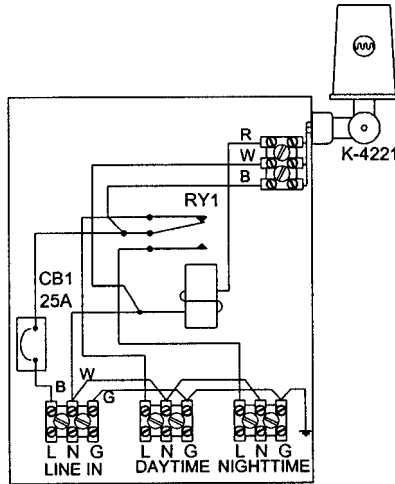

Figure 7-4
- a. The RSB-AC (Figure 7-4) is used on AC powered ranges to switch between daytime and nighttime lights. The device is comprised of a circuit breaker, K-4221 photocontrol (same as K-4121 but swivels) and a single pole, double throw (SPDT) relay.